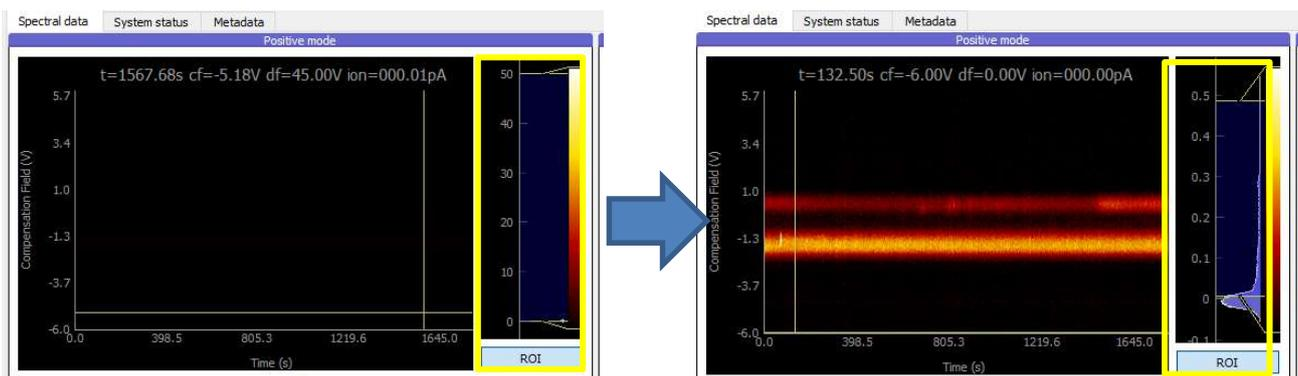

Figure 7. How to visualize the DF matrix. It is possible to change the colour scheme by right-clicking on the coloured bar.
3.2.3 In order to visualize the matrix, adjust the bar panel located to the right of the positive DF matrix viewer (Figure 7).